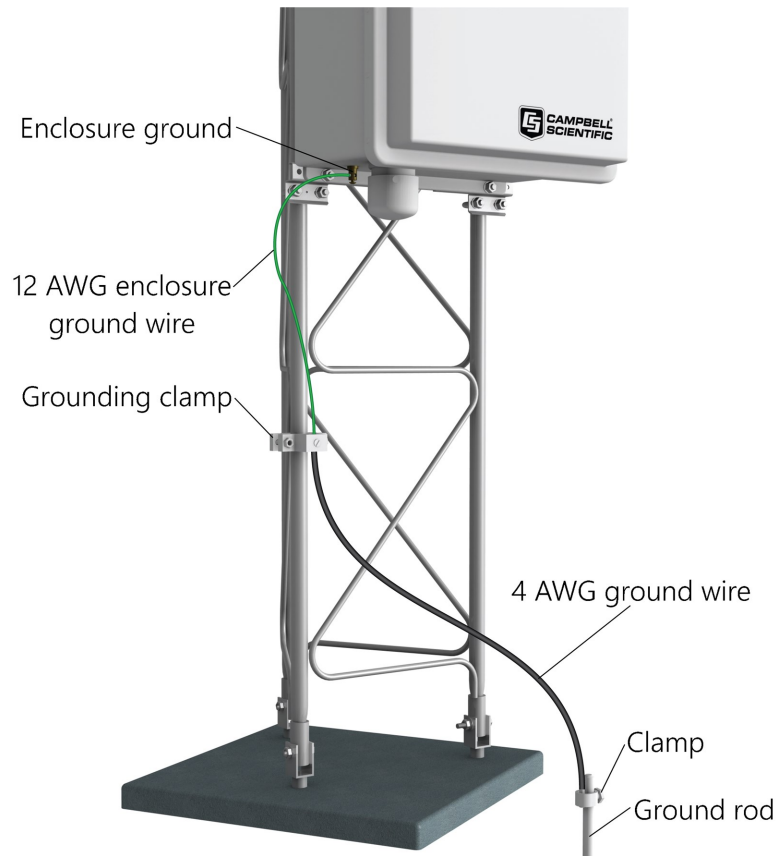

FIGURE 7-36. Tower grounding clamp
1. Drive the ground rod close to the tower (FIGURE 7-36 (p. 42)) using a fence post driver or sledgehammer. Drive the rod at an angle if an impenetrable hardpan layer exists. In hard clay soils, a gallon milk jug of water can be used to “prime” the soil and hole to make driving the rod easier.
3. Attach the tower grounding clamp to a tower leg (FIGURE 7-36 (p. 42)). Route the 4 AWG wire attached to the ground rod up the tower leg to the grounding clamp. Loosen the set screw and insert the 4 AWG wire and the 12 AWG enclosure ground wire into the hole behind the set screw and tighten the set screw. Route the green wire to where the enclosure will be installed.